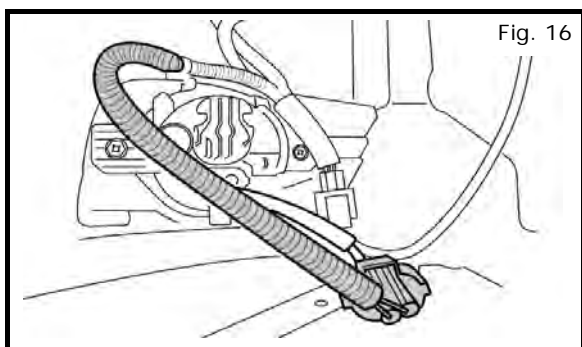

Fig. 16
a) Carefully position jumper harness up to fog lamp sub harness to secure as shown in Fig. 16.